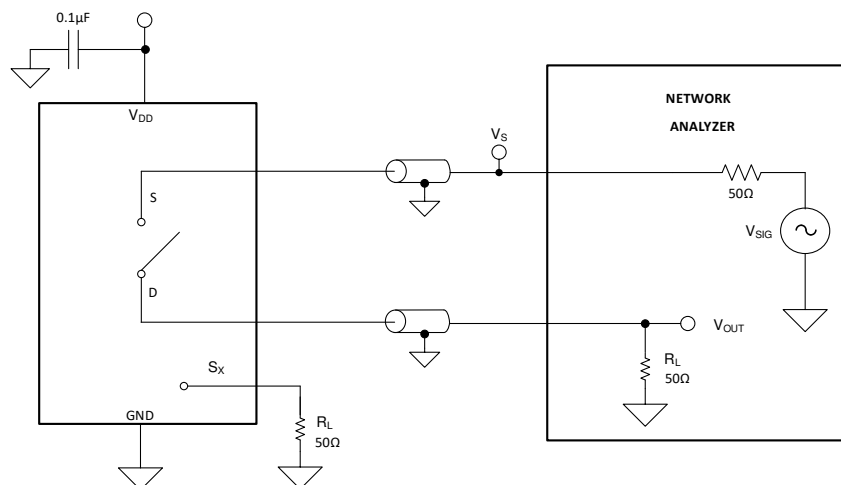

Figure 6-7. Off Isolation Measurement Setup
Off isolation is defined as the ratio of the signal at the drain pin (D) of the device when a signal is applied to the source pin (S_x) of an off-channel. Figure 6-7 shows the setup used to measure, and the equation used to calculate off isolation.